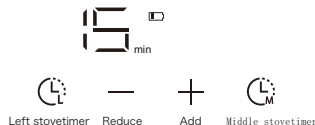

Figure 8
1) When the left stove is burning, press and hold the "Left stove timing" button for about 2 seconds, and the left stove will enter the timing adjustment state. At this time, the panel displays the value "15", and at the same time the left cooker timing indicator is lit (see Figure 8), and the middle cooker timer button is the same.